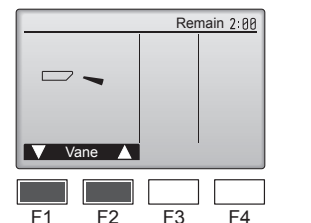

Fig. 8-4
- ② Press the [SELECT/HOLD] button to display the Vane operation screen, and then press the [F1] and [F2] buttons to check the auto vane. (Fig. 8-4)